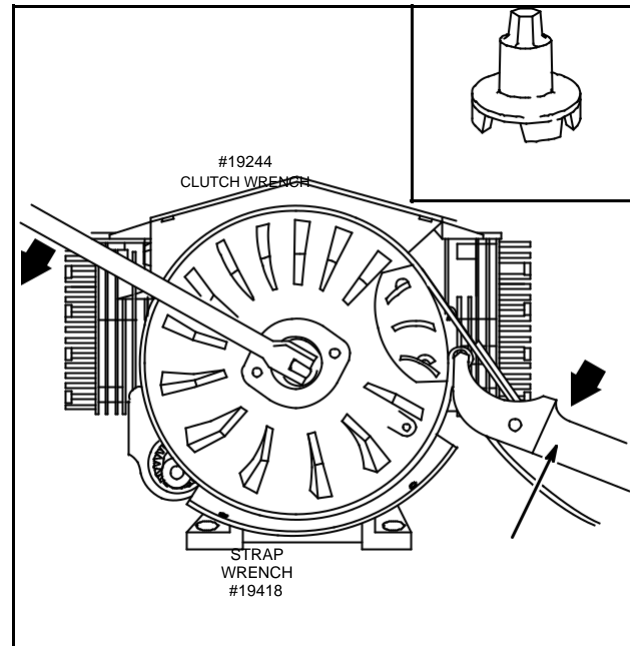

Fig. 24 – Remove Flywheel Nut
1. Place flywheel strap wrench, Tool #19433, around outer rim of flywheel, Fig. 24.